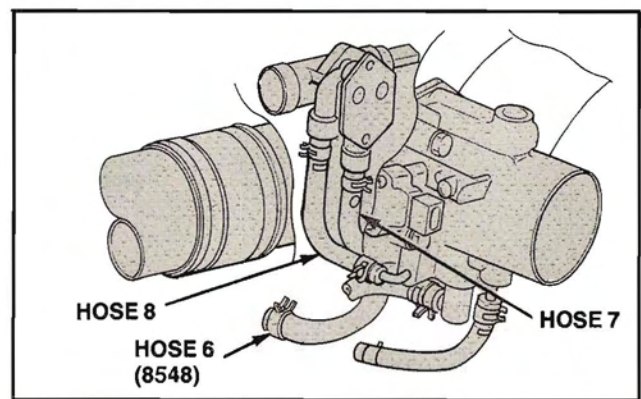

Figure 166. Water Bypass Hoses
1. Connect the water bypass hoses to the throttle body (Fig. 166).